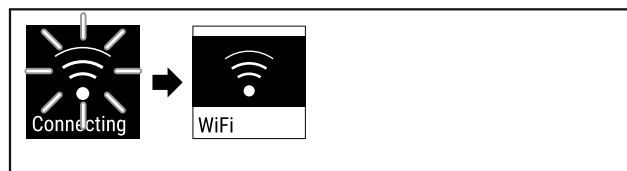

Fig. 85
- Connection is established (see Fig. 85).